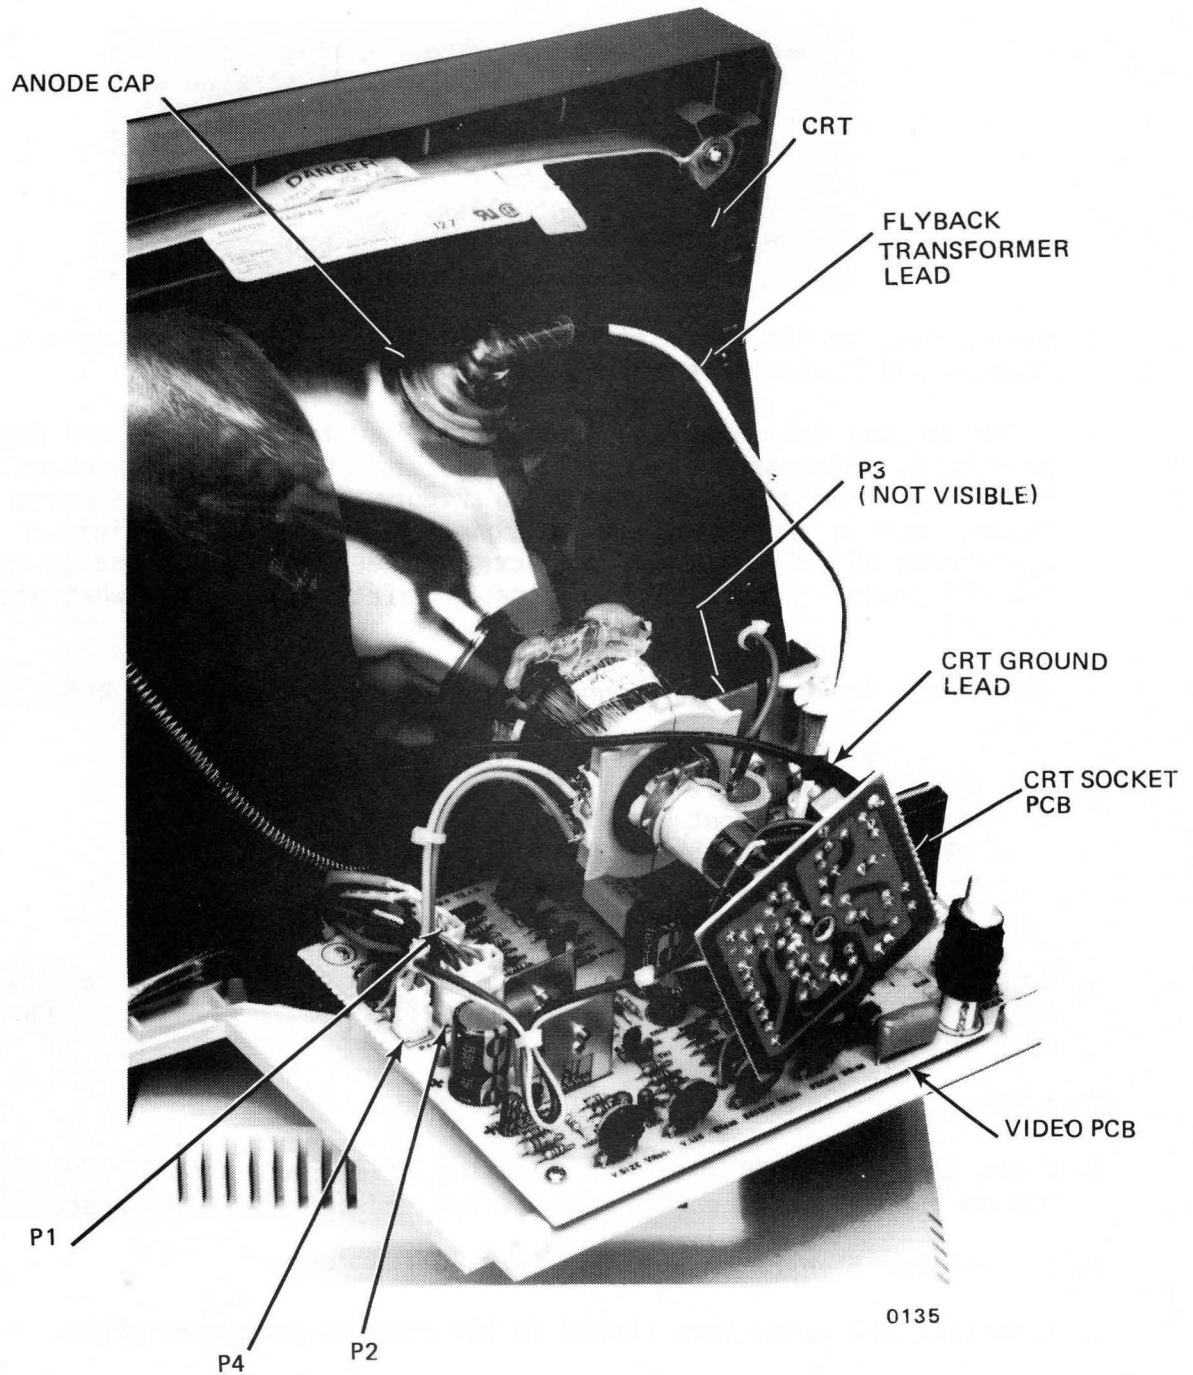

Figure 2-11. Upper Monitor Area
The Upper Monitor Area contains the following subassemblies. Refer to Figure 2-11.
2. Refer to the following CRT and Deflection Yoke Removal and Replacement procedure. Discharge the CRT high voltage circuit and disconnect the CRT anode cap from the CRT (refer to Figure 2-11). To discharge the CRT anode, use a high voltage discharge probe with a minimum internal resistance of 100 kOhm, and connected between the CRT grounding spring and the CRT anode. Observe all applicable safety regulations when discharging the CRT.
3. Disconnect the following connectors from the video PCB. Refer to Figure 2-11.
2. Discharge the CRT high voltage circuit (refer to Figure 2-11). To discharge the CRT anode, use a high voltage discharge probe with a minimum internal resistance of 100K Ohm, connected between the CRT grounding spring and the CRT anode. Observe all applicable safety procedures when discharging the CRT.
4. Disconnect connectors P3 and P4 (horizontal and vertical yoke deflection leads) from the video PCB. Refer to Figure 2-11.
2. Install the CRT socket PCB on the neck of the CRT. Connect the ground lead from the CRT grounding spring to the CRT socket PCB. Refer to Figure 2-11.